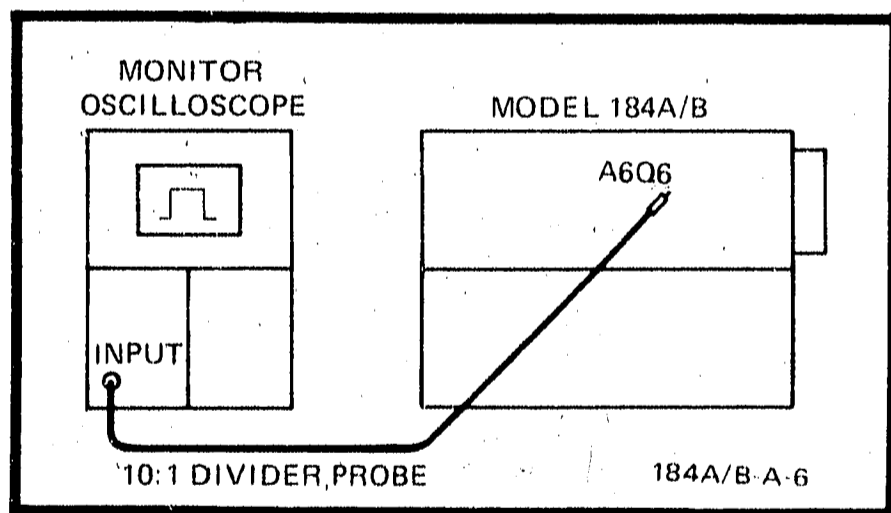

Figure 5-8. Gate Amplifier Response Adjustment
- e. Using 10:1 divider probe and monitor oscilloscope, observe gate pulse signal at collector of A6Q6 (figure 5-8).